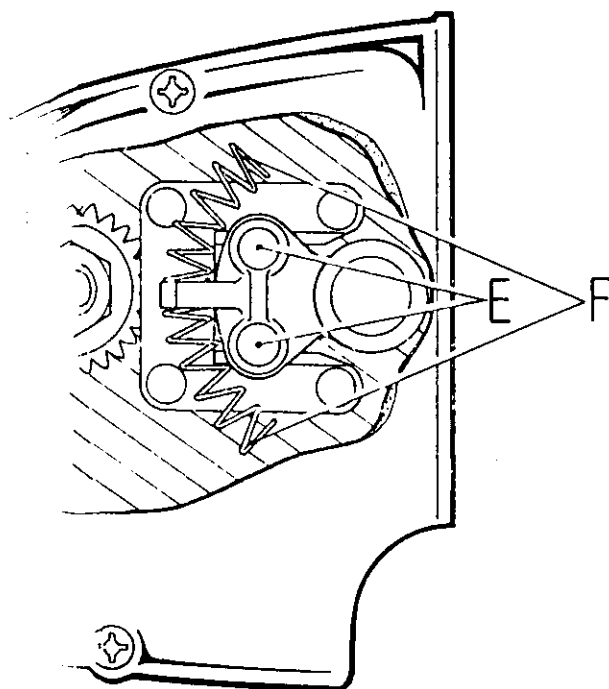

FIG. B.49. Gear cam plate plungers.
The spring-loaded cam plate plungers (E) Fig. B.49 are retained by a V-shaped plate, held to the inner face of the cover by four nuts with shakeproof washers. On removal of the plate, the loosely located quadrant return springs (F) will also be released.